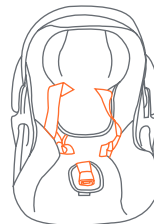

Fig. 36-1
3. Place the Safety Seat on a firm and level surface. Move the carry handle to the non rocking position. Loosen the Harness Straps by pulling on the straps while pushing on the Harness Adjuster Button located below the pad just in front of the buckle. Unfasten the Harness Chest Clip. Unbuckle the Harness Straps and drape the Harness Straps over the Seat back or to the sides of the Safety Seat. (Fig. 36-1)